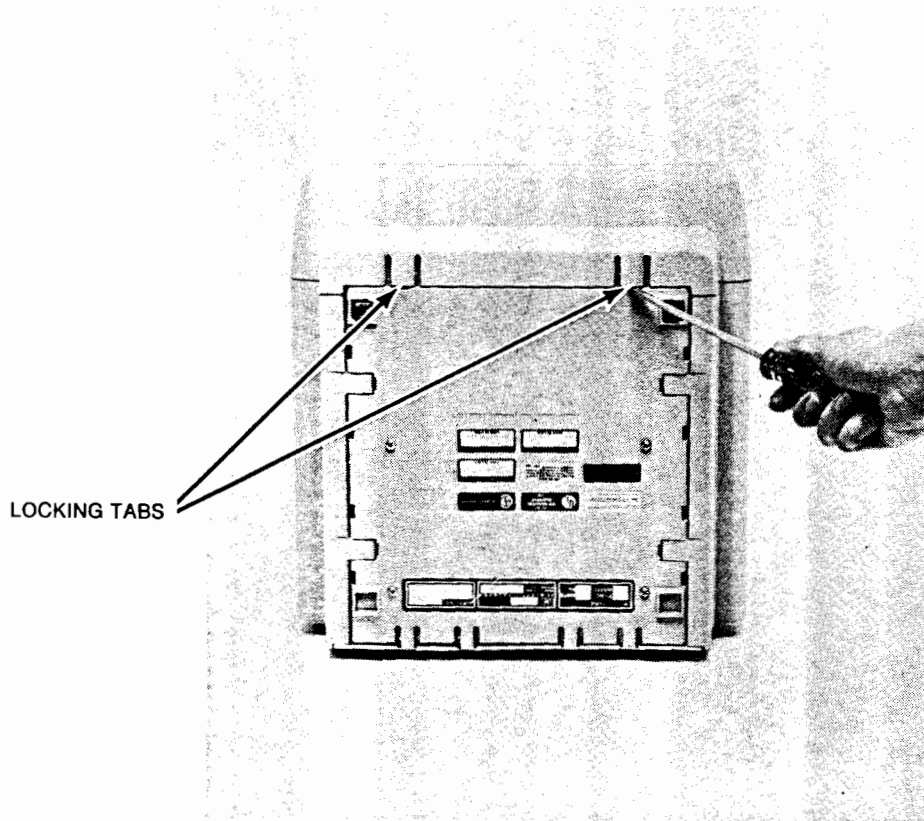

Figure 8-15. Removing the Bezel
6. Remove the bezel (with Touchscreen) from the mainframe by using a flat-blade screwdriver to unhook the bezel's locking tabs, located on the bottom of the unit (see figure 8-15), to free it from the mainframe. Disconnect the Touchscreen cable before pulling the bezel completely away from the mainframe.